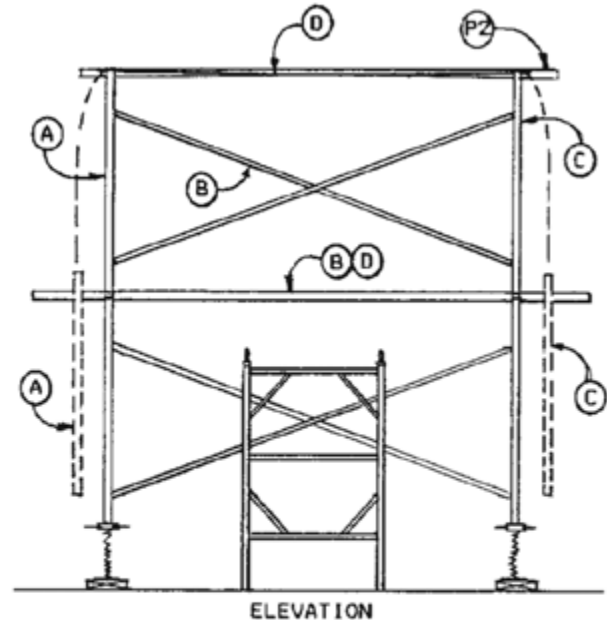

Fig. 37
11. Install cross braces as described earlier (Fig. 37)